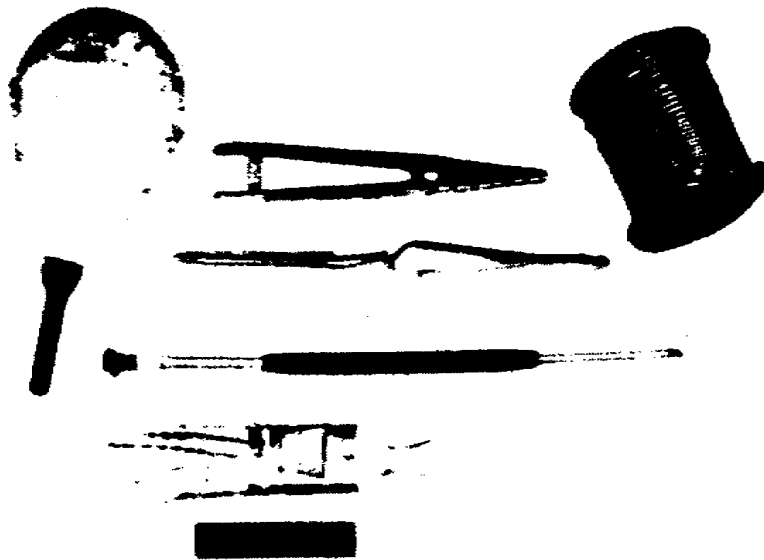

Figure 11. Items for use in soldering.
- (2) Items for use in soldering (fig. 11). Solder (shown at upper right) is a lead-tin alloy in the form of wire with a rosin core. Rosin-core solder is the preferred type of solder to use in electrical and electronic work, because it doesn't tend to corrode soldered connections the way acid-core or acid-flux solder does. Your local unit or shop supply replenishes your supply of solder as you need it. One pound comes wound on the spool. Being a soft metal, and only about 1/32 of an inch in diameter, it is easily cut off with diagonal cutters. The solder remover syringe (shown at upper left) is used to remove excess "blobs" of molten solder. This syringe could come in handy for other uses too; for instance, to blow away dust from something that is to be soldered, to hold or dispense drops of water to cool off a hot, molten blob of solder that is dropped where you don't want it, or to blow away filings from a workpiece, etc. But by using this syringe as intended, you can make a neatly soldered connection instead of a lumpy, sloppy one that might be rejected by the shop's inspector or quality control element. A heatsink pliers (shown at top center) is often referred to simply as a heatsink. It is a metal clamp used to conduct heat away from parts that might become damaged by too much heat while you solder. Shown beneath the heatsink pliers is craftsman's tweezers, quite helpful in picking up tiny parts and positioning them as necessary. Such tweezers additionally can serve as a heatsink. Under the tweezers is a soldering aid tool. With insulated handle and fingerlike tip, and a metal-bristled brush on the opposite end, the soldering aid tool saves your fingers from getting burnt and extends your reach into tough-to-get-at places where you must solder. The ordinary varnish brush is not only handy for brushing away dust and dirt from what is to be soldered, but it is also good for brushing away the stray flecks of solder from things whenever drops of molten solder accidentally have dislodged from the tip of your soldering iron and splattered. After a soldering job is over, a brush like this can be used to apply moisture-fungus proofing (MFP), especially if the equipment is going to be used in the tropics.